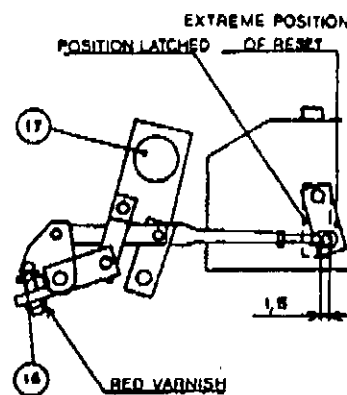

Fig. 14
- 1) Breaker equipped with signal indication with memory for overload and short circuit release (with or without indication.) (Fig. 14).
- a) Adjustment. When breakers equipped with this accessory is necessary to place breaker open position and adjust screw (16) to effect latching the release. A very distinct click indicates latching. To insure margin of safety, unscrew $\frac{1}{4}$ a turn.
- 1) Adjustment. With the breaker in the open position and the release bar latched as illustrated in Fig. 14, adjust screw (30) lengthening linkage until stirrup is against stop (29), then back off $\frac{1}{2}$ turn.